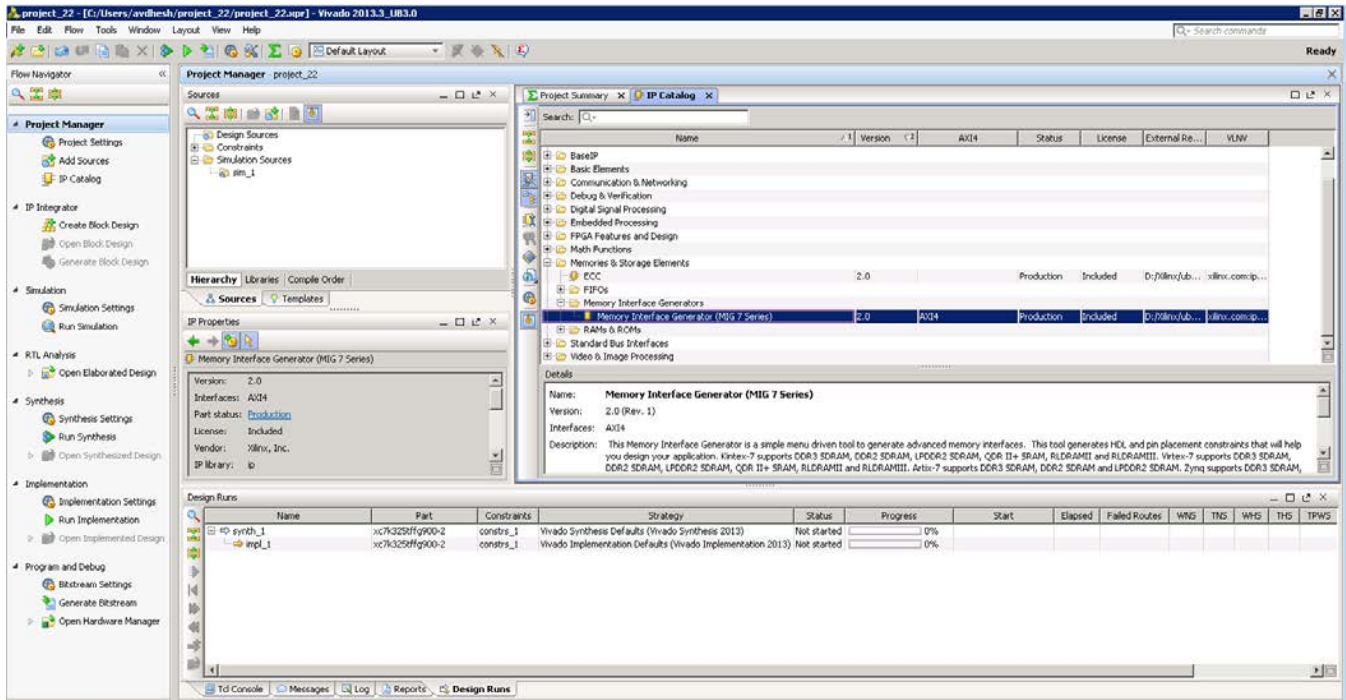

Figure 2-12: IP Catalog Window – Memory Interface Generator
11. Click **IP Catalog** on the Project Manager window to open the Vivado IP catalog window. The IP catalog window appears on the right side panel (see Figure 2-12, highlighted in a red circle).
12. The MIG tool exists in the **Memories & Storage Elements > Memory Interface Generators** section of the IP catalog window (Figure 2-12) or you can search from the Search tool bar for the string "MIG."